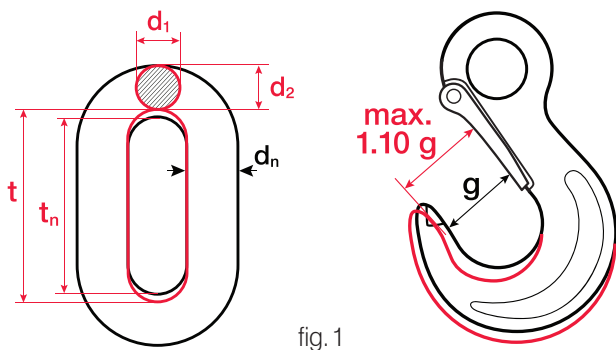

fig. 1
- Signs of wear, as determined as the mean value of two measurements of diameters  $d_1$  and  $d_2$  carried out at a right angle (fig. 1). The chain must be discarded if: